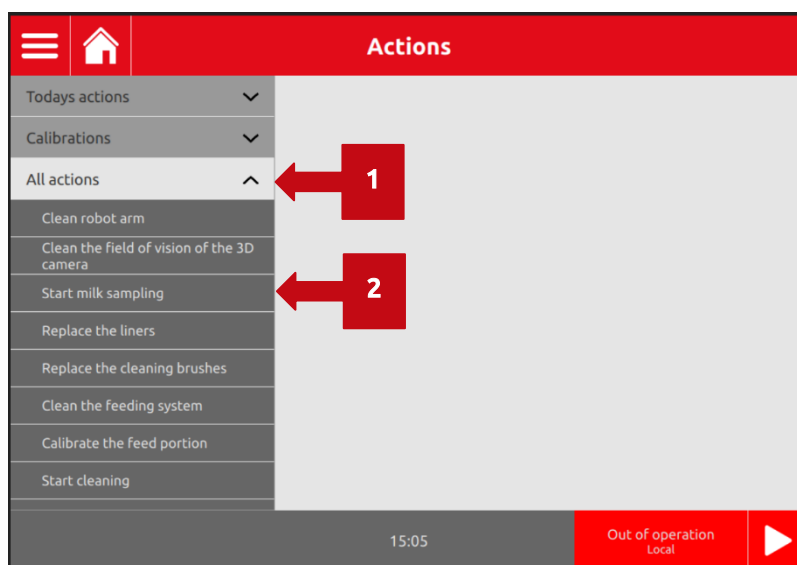

Figure 24. Menu All Actions, Start milk sampling
1. In the All Actions menu, select Start milk sampling, see the figure 24